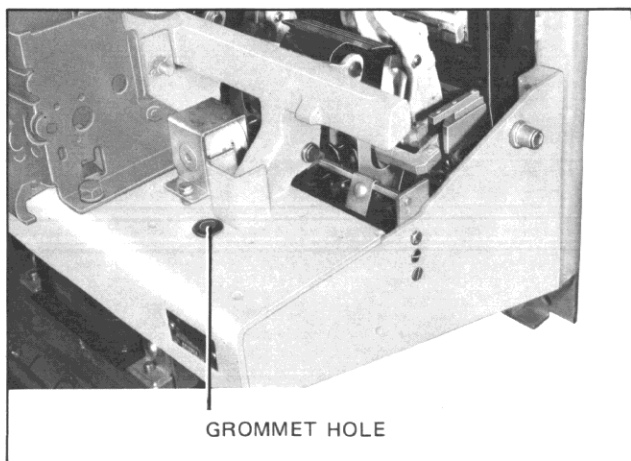

Fig. 31 Location of Grommet for Harness DB-75/100
4. Feed the amptector end of the wiring harness through the grommet from the under side of the breaker, wire should be behind the amptector, Fig. 31.